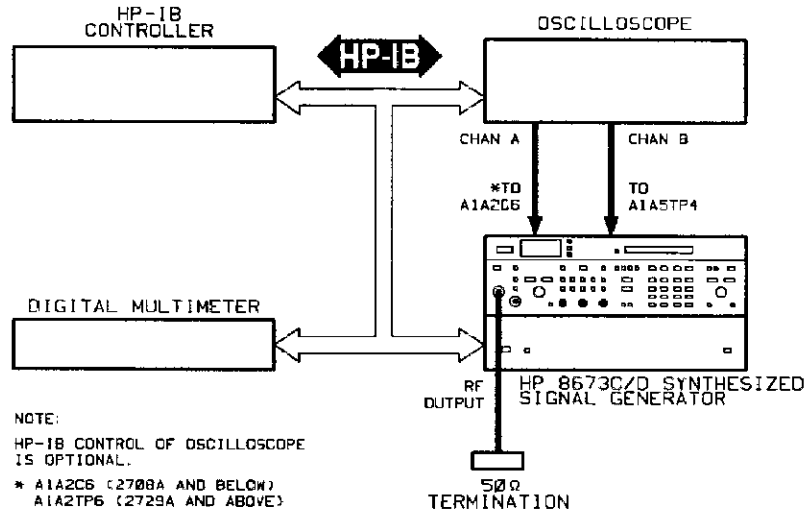

Figure 5-24. YTM Tune Adjustment Test Setup
- Procedure** 1. Connect equipment as shown in figure 5-24.